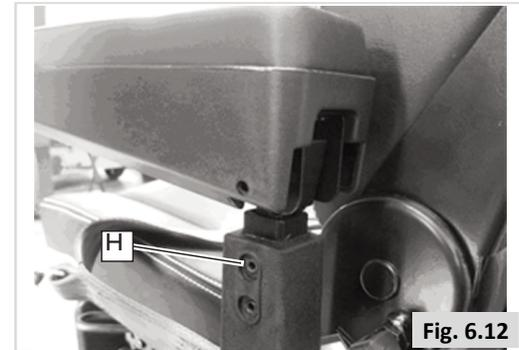

Fig. 6.12
- Using a 4mm Hex key, loosen the two M5 set screws (H) located on the armrest receiver, Figure 6.12.